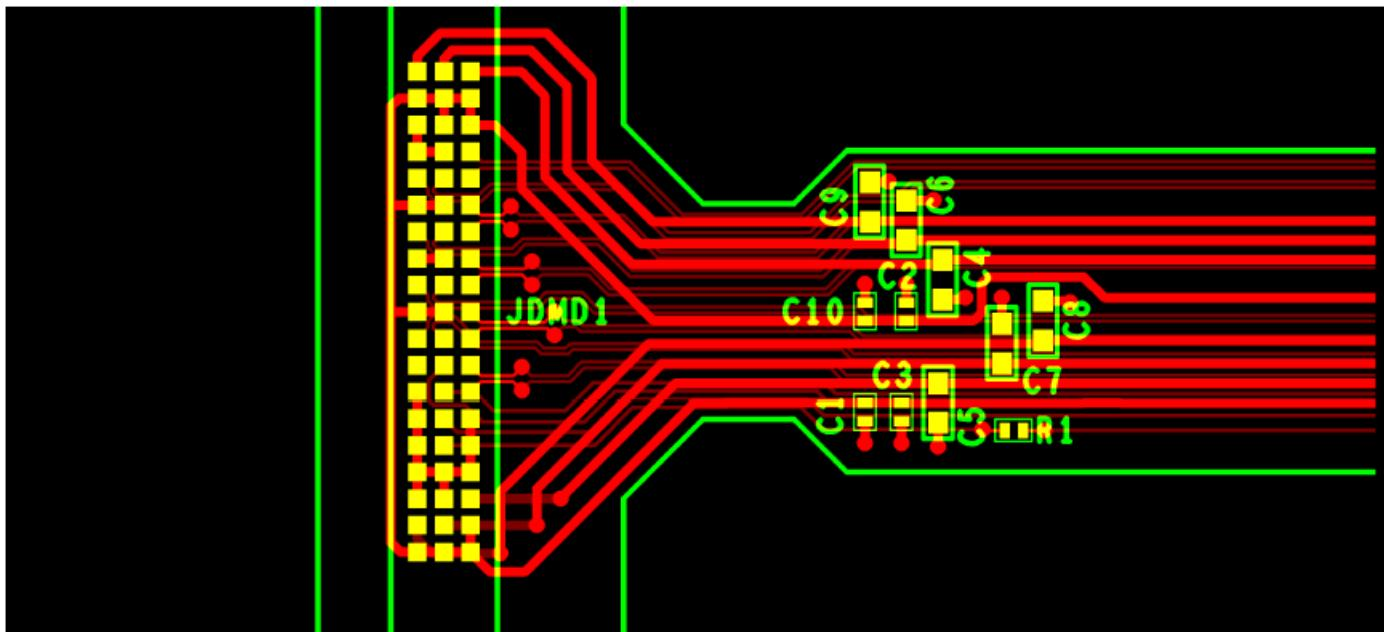

图 10-1. Power Supply Connections
- Minimize vias, layer changes, and turns for the HS bus signals. Refer 图 10-1.
- Minimum of two 100-nF decoupling capacitor close to VBIAS. Capacitor C6 and C7 in 图 10-1.
- Minimum of two 100-nF decoupling capacitor close to VRST. Capacitor C9 and C8 in 图 10-1.
- Minimum of two 220-nF decoupling capacitor close to VOFs. Capacitor C5 and C4 in 图 10-1.
- Minimum of four 100-nF decoupling capacitor close to VDDI and VDD. Capacitor C1, C2, C3 and C10 in 图 10-1.